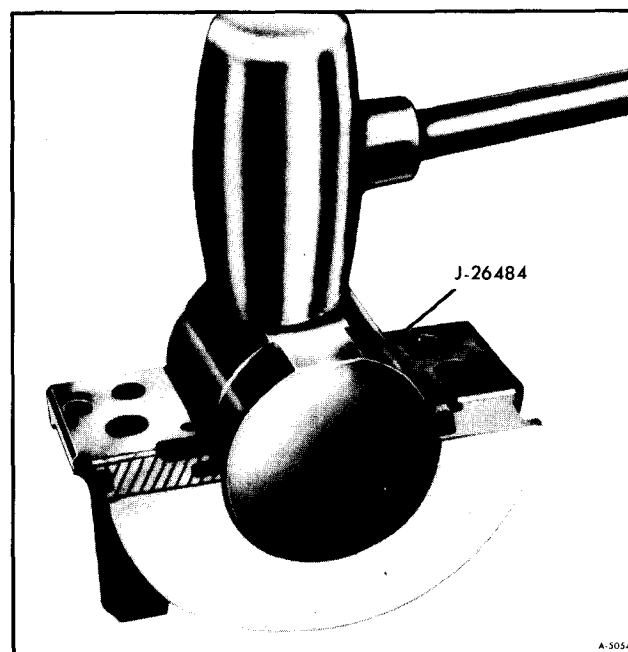

Figure 76—Installing Rear Main Seal-Lower Half
2. Using seal installer J-26484 hammer seal into groove. (See figure 76).